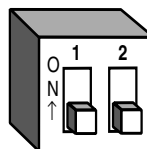

Figure 4.1b -
**Input:** Selects the sensor input type. The internal DIP switch must also match the **In** Input parameter. See Figure 4.1b for DIP switch orientation. Refer to Table 4.5a on page 4.5 for input type temperature ranges.
**Range:** **J**, **H** (K), **t**, **n**, **S**, **b**, **rtd**, **rtd**